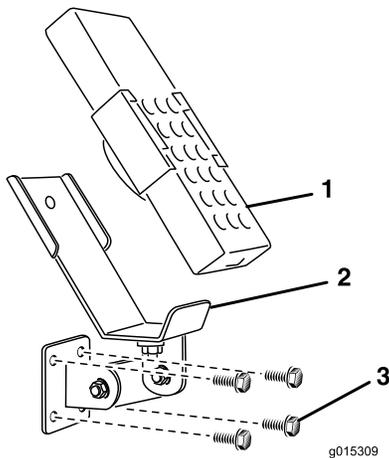

Figure 12
3. Using the backing plate as a template, locate, mark and drill (4) 11/32 inch diameter holes in the tow vehicle mounting surface.
4. Attach the mounting bracket and backing plate with (4) 5/16 x 1-1/2 inch flange head bolts and flange locknuts (Figure 12 and Figure 13).